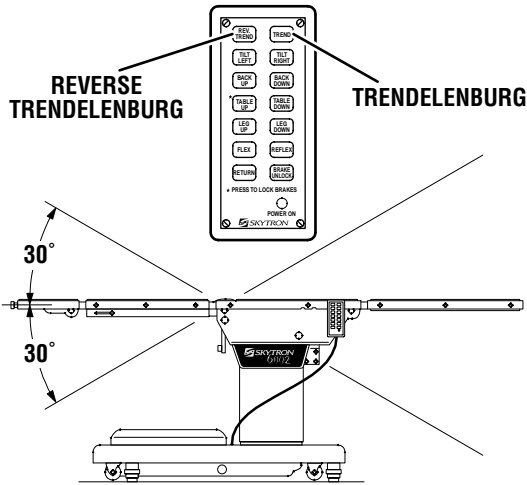

Figure 3-4. Trendelenburg Positioning
b. **Trendelenburg.** To place the surgical table in a Trendelenburg (head down) position, press the TREND button (figure 3-4). Trendelenburg positioning of up to 30° may be obtained. To place the table in a reverse trendelenburg (head up) position, press the REV TREND button. Reverse Trendelenburg positioning of up to 30° may be obtained.